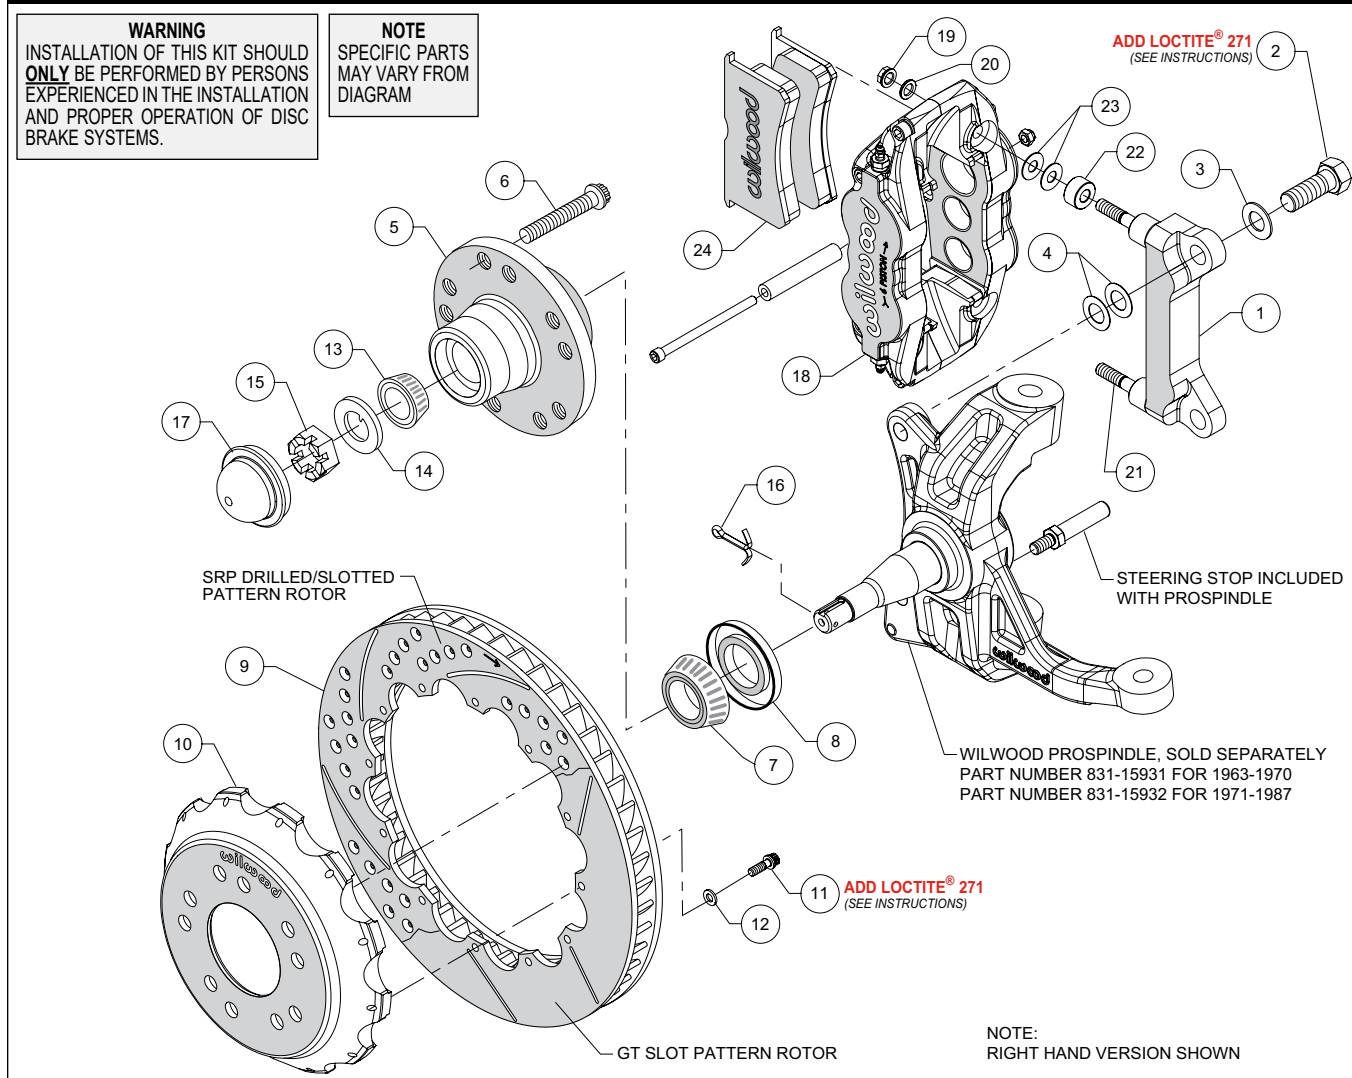
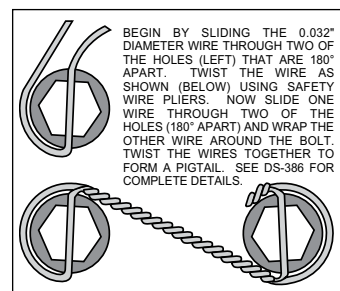

Figure 1. Typical Installation Configuration
Figure 3. Safety Wire Diagram
**NOTE:** Numbers in parenthesis refer to the parts list and Figure 1 on the preceding pages.
- Install the steering stop bolt (included with the ProSpindle) into the spindle as shown in Figure 1 and Photo 1. Torque to 25 ft-lbs.
- The caliper mount bracket (1) should initially be installed with clean, dry threads on the mounting bolts. Orient the bracket, as shown in Figure 1 and Photo 2, and install using bolts (2) and washers (3). Initially place two .024" thick shim (4) on each bolt between the bracket and spindle, Figure 1. Temporarily tighten the mounting bolts. **NOTE:** The bracket must fit squarely against the mount bosses on the spindle. Inspect for interference from casting irregularities, machining ridges, burrs, etc. Later, after the caliper alignment has been checked, the mount bolts will be secured using red *Loctite*® 271.
- Install wheel studs (6) into the hub (5), Photo 3. Torque to 77 ft-lb. **NOTE:** There are two five lug patterns in the hub (5 x 4.75 and 5 x 5.00). Ensure the correct hub stud pattern is being used to fit the wheel application.
- Pack the large inner bearing cone (7) with high temperature disc brake bearing grease (available from your local auto parts store) and install into the backside of the hub (5), Photo 4.
- Install the grease seal (8) by pressing into the backside of the hub (5), flush with the end of the hub, Photo 5.
- Pack the small outer bearing cone (13) with high temperature disc brake bearing grease and install into hub (5). Slide the hub assembly onto the spindle. Secure using spindle washer (14) and spindle nut (15), Photo 6. Adjust bearings per OEM specifications. Install a new cotter pin (16).
- Press the dust cap (17) into the hub (5). **NOTE:** Do not hammer center of cap. Install using outer flange only.
- Orient the rotor (9) and the hat (10) as shown in Figure 1 and Photo 7. Attach rotor to hat using bolts (11) and washers (12). Apply red *Loctite*® 271 to the bolt threads and torque to 155 in-lb using a criss-cross pattern. For an added measure of security, the bolts may be safety wired using standard 0.032 inch diameter stainless steel safety wire as shown in Figure 3. Refer to Wilwood's data sheet DS-386 (available at [www.wilwood.com/Pdf/DataSheets/ds386.pdf](http://www.wilwood.com/Pdf/DataSheets/ds386.pdf)) for complete safety wire installation instructions.
- Slide the hat/rotor assembly (10 and 9) onto the hub (5), Photo 8. **NOTE:** The hat must fit flush against the hub face or excessive rotor run out may result. Install three lug nuts (finger tight) to keep the hat/rotor assembly in place while continuing with the installation, Photo 8.
- NOTE:** This kit contains distinct right and left hand calipers that must be mounted in a specific direction, as described below. Initially place two .035" thick shims (23) and one spacer (22) on each stud (21) between the caliper and the bracket, as shown
in Figure 1 and Photo 9. Mount the caliper (18) onto the bracket (1) using lock nuts (19) and washers (20), Figure 1. Temporarily tighten the lock nuts. Ensure that the caliper is mounted so that the largest pistons are at the rotor exit end of the caliper, in relation to the direction of rotor rotation. View the rotor through the top opening of the caliper. The rotor should be centered in the caliper, Photo 10. If not, adjust by adding or subtracting shims (4) between the bracket and the spindle. Always use the same amount of shims on each of the two mounting bolts. Once the caliper alignment is correct, remove the bracket mounting bolts one at a time, apply red *Loctite*® 271 to the threads, and torque to 140 ft-lb.